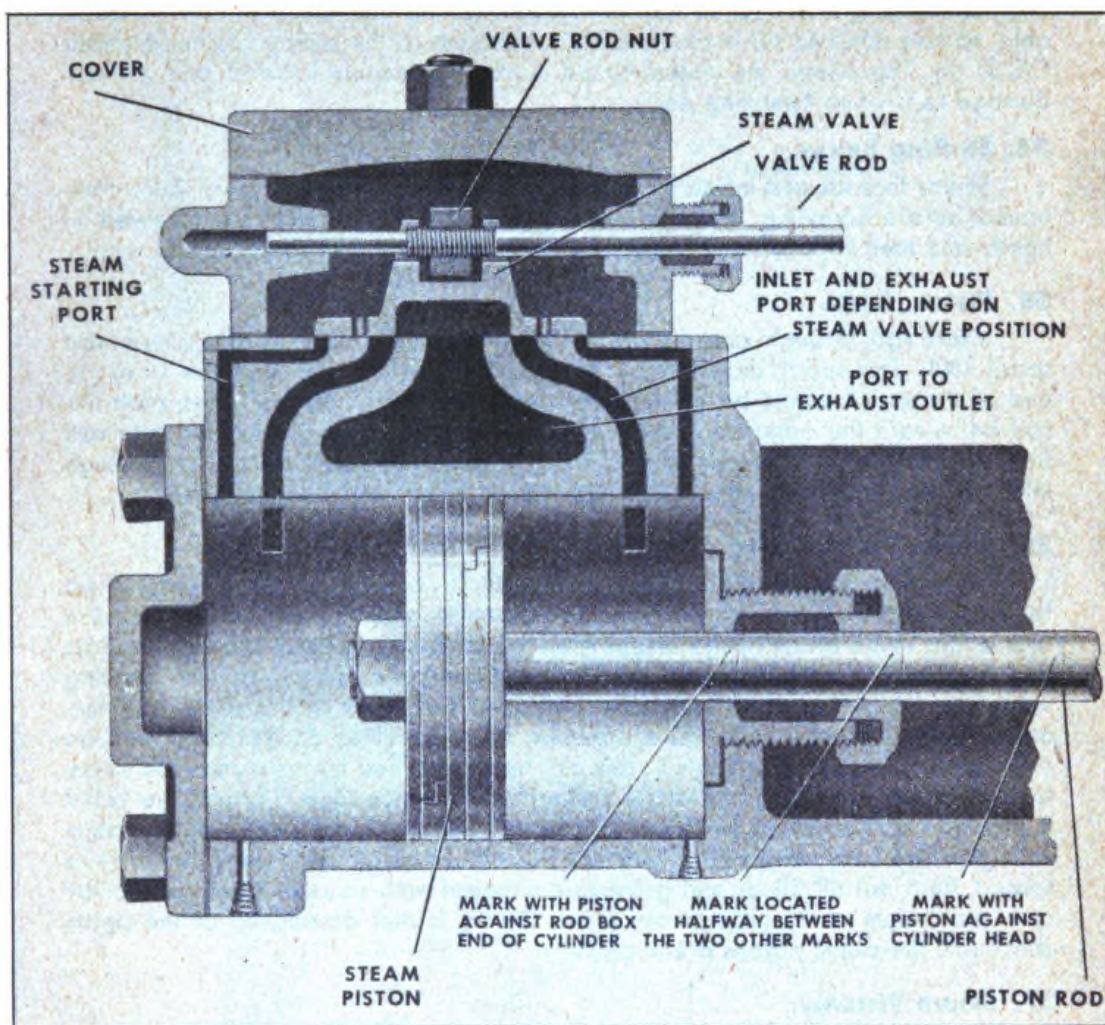

Fig. 12—Location of Steam Piston and Steam Valve at Exact Center
38. Steam Valve Setting. (See Fig. 12)